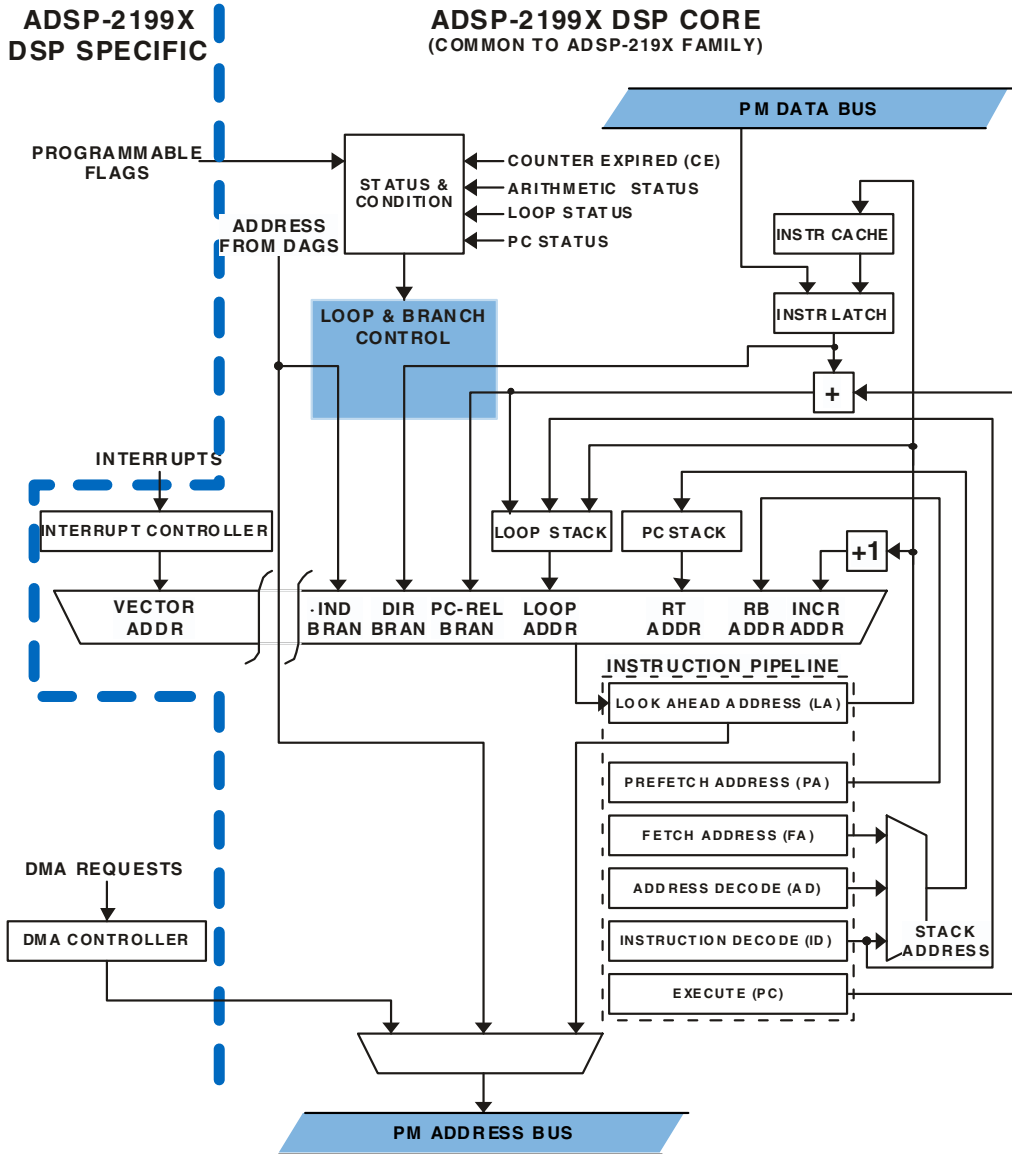

Figure 3-2. Program Sequencer Block Diagram
To accomplish these tasks, the sequencer uses the blocks shown in Figure 3-2 on page 3-4. The sequencer's address multiplexer selects the value of the next fetch address from several possible sources. The fetched address enters the instruction pipeline, ending with the program counter (PC). The pipeline contains the 24-bit addresses of the instructions currently being fetched, decoded, and executed. The PC couples with the PC stack, which stores return addresses. All addresses generated by the sequencer are 24-bit program memory instruction addresses.
Figure 3-2 on page 3-4 uses the following abbreviations: ADDR=address, BRAN=branch, IND=indirect, DIR=direct, RT=return, RB=rollback, INCR=increment, PC-REL=PC relative, PC=program counter.
The diagram in Figure 3-2 on page 3-4 also describes the relationship between the program sequencer in the ADSP-219x DSP core and inputs to that sequencer that differ for various members of the ADSP-219x family DSPs.
The following sections in this chapter explain how to use each of the functional blocks in Figure 3-2 on page 3-4: